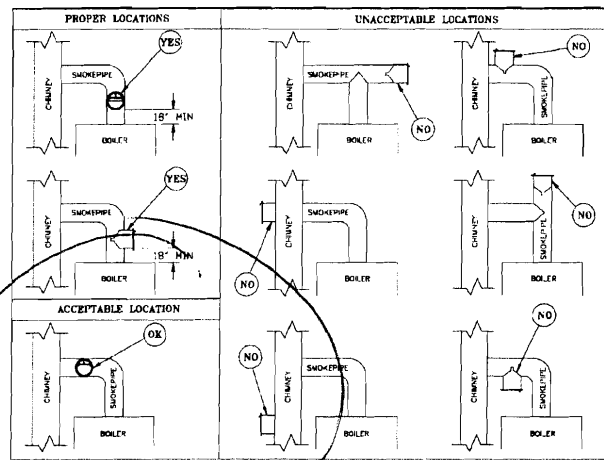

Figure 8: Proper and Improper Locations of Draft Regulator
1. Install a draft regulator (supplied with boiler) following the instructions furnished with the regulator. See Figure 8 for alternate draft regulator locations.